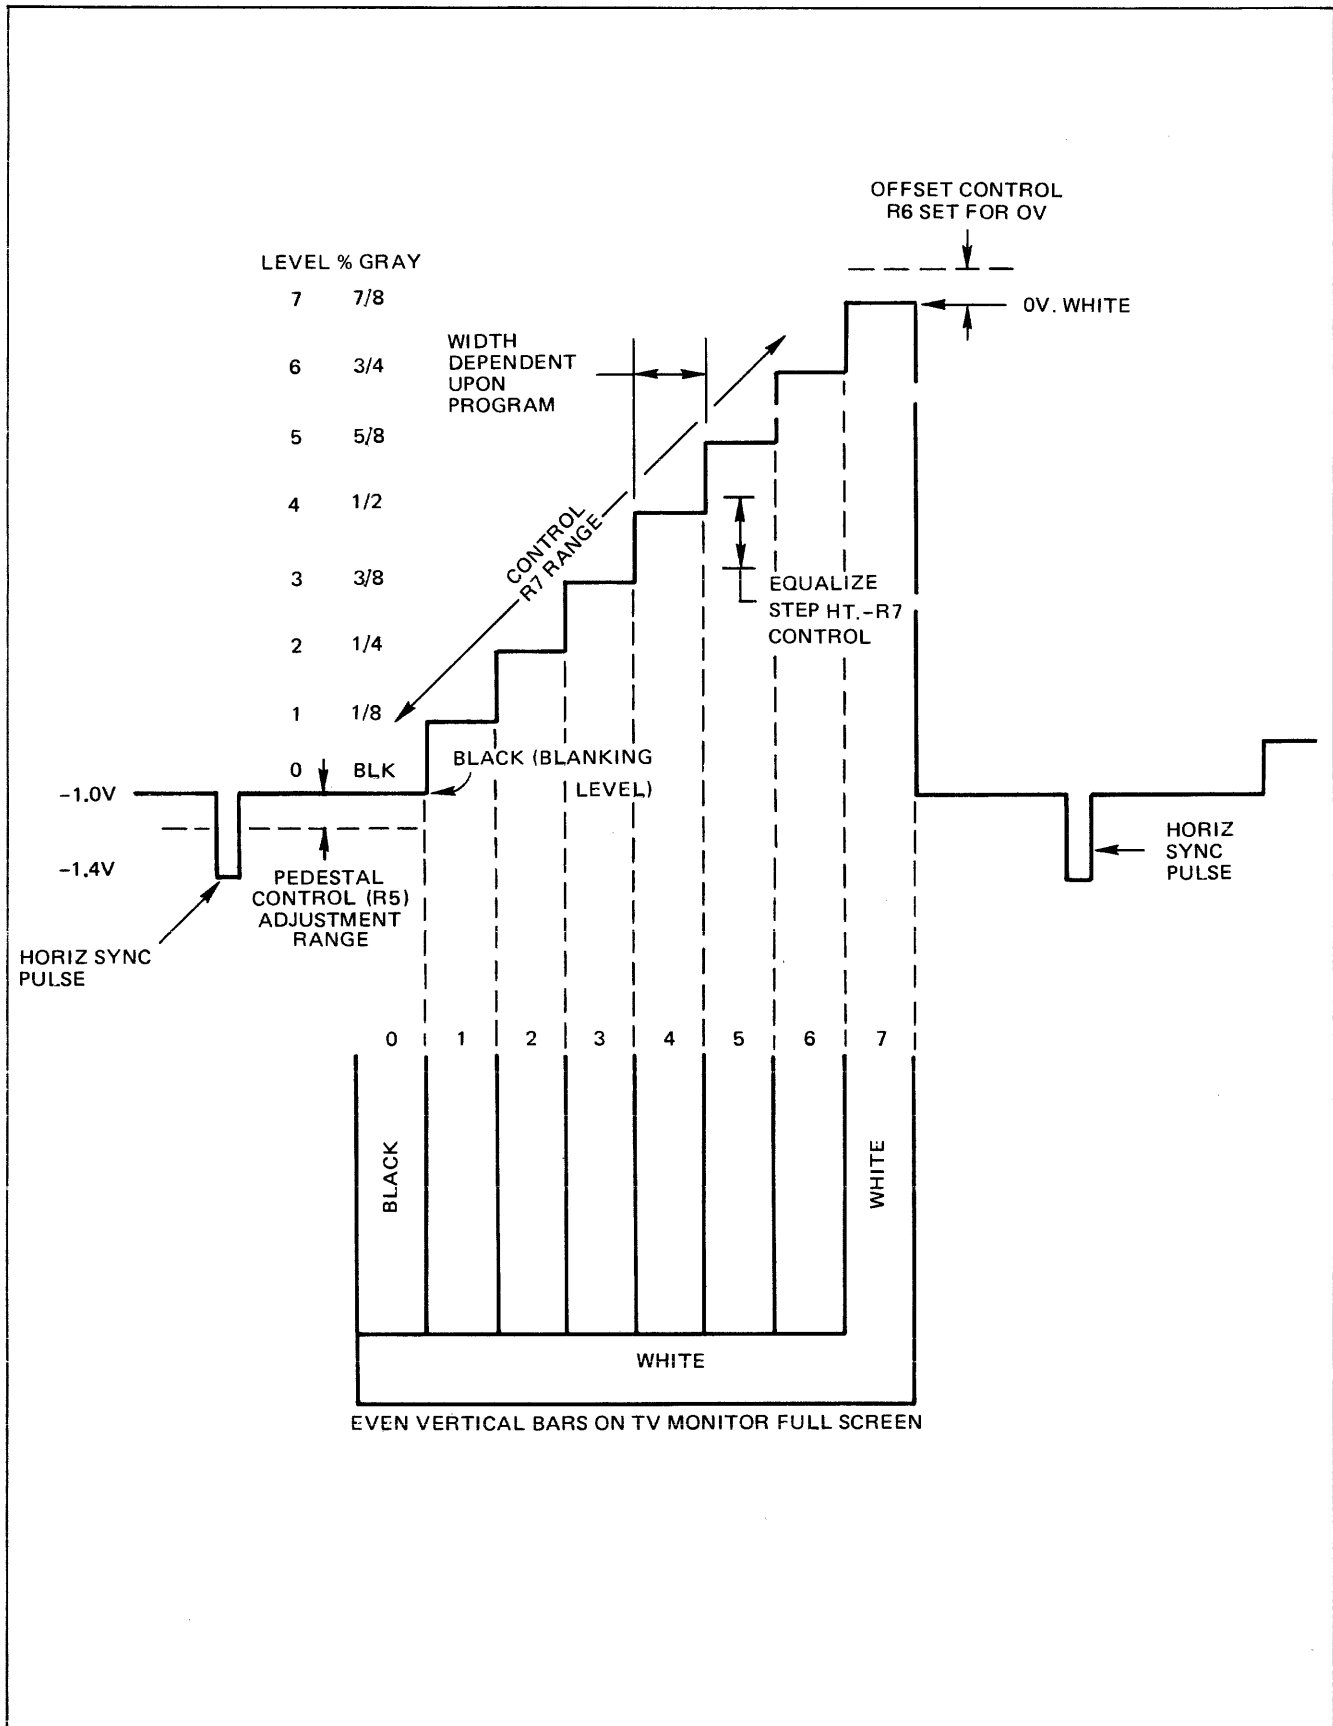

Figure 2-5. Multi-Level Gray Adjustment Waveform
- j. Connect an oscilloscope to card A (master) composite video output test point (see figure 2-1). Run verification or diagnostic program and display the color bar pattern. Adjust oscilloscope to display a staircase waveform between two sync pulses. The staircase waveform is shown in figure 2-5.
- k. Use offset control R6 to position the top of the staircase at 0 volt. Set the blanking level at -1.0 volt using pedestal control R5. Use contrast control R7 to equalize each step in the staircase waveform. Refer to figure 2-1 for control location. An eight-level staircase waveform is shown in figure 2-5. With two cards, only steps 0,2,4, and 6 are present such that the white level is actually a 3/4 white.